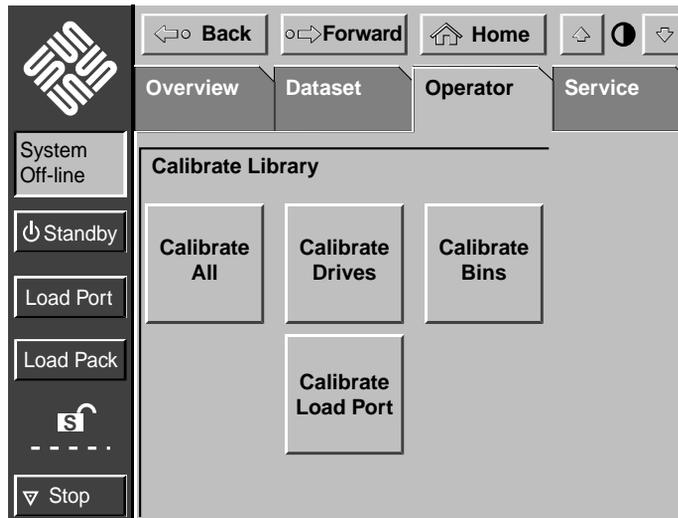

FIGURE 4-7 Calibrate Library Screen
1. In the Operator screen, press the **Calibrate Library** button. The **Calibrate Library** screen appears (FIGURE 4-7).